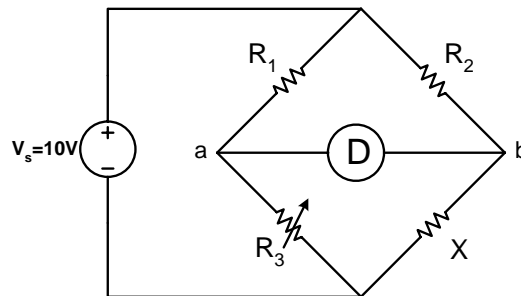

Figure 1: Simplified Wheatstone Bridge Circuit
A simplified Wheatstone bridge circuit is shown in Figure 1. In the figure, R_1 , R_2 and R_3 are precision, adjustable resistances and X is the unknown resistance. You are required to measure the unknown resistance X .
1. Connect the power supply and resistances as shown in figure 1.